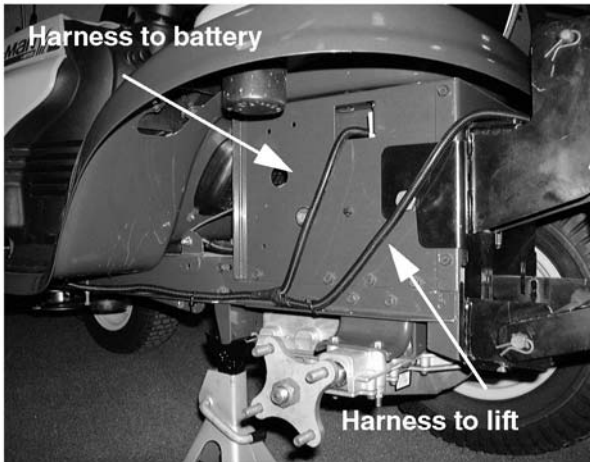

Figure 8-51.
18. Route the harness up the inside edge of the fender and pass it through the hitch plate opening on the left side of the frame, adjacent to the underside of the cup holder. See Figure 8-51.